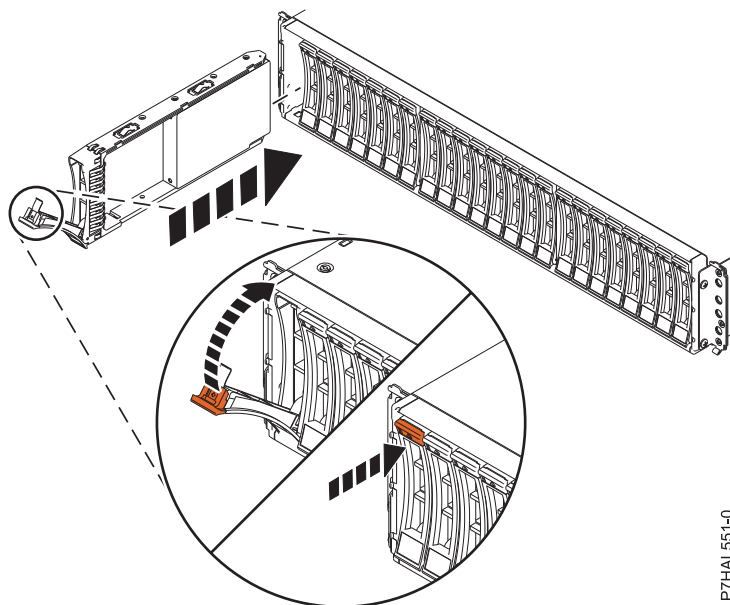

Figure 10. Installing or replacing the disk drive in the ESLL or ESLS storage enclosure
3. With the handle in the unlocked position, as shown in Figure 10, support the bottom of the drive as you align it with the guide rails in the enclosure.
7. Lock the drive by rotating the handle (A) in the direction that is shown in Figure 10.